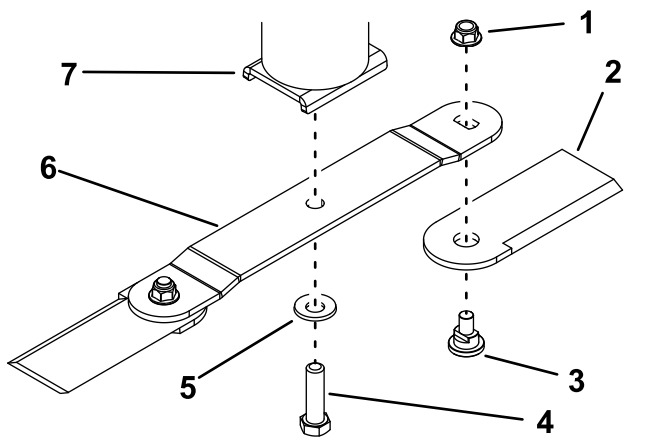

Figure 37
2. Remove the blade bolt, the curved washer, and blade from the blade mount on the bottom of the spindle-cup assembly (Figure 37).
If the blade is not balanced, file some metal off the back side of the blade (opposite of the cutting edge) only (Figure 37).
1. Attach the blade to the spindle cup assembly using the blade bolt and curved washer (Figure 37).
3. To install only the flail blades, secure the flails to the end of the blade using the flail bolt and a new nut for each flail (Figure 37). Torque the nut to 103 to 127 N·m (76 to 94 ft-lb).